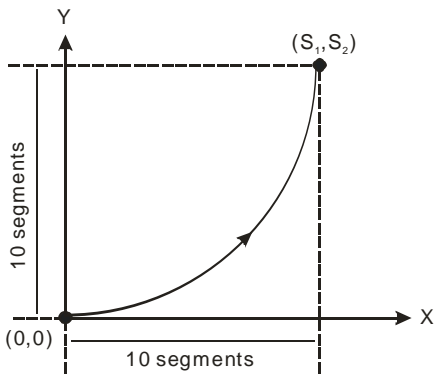
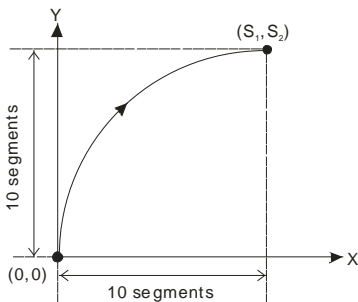
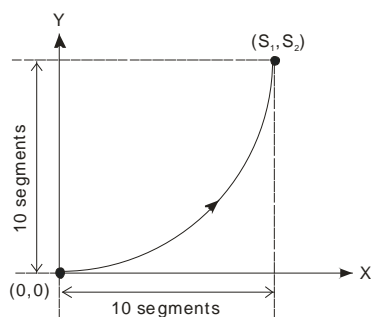

Figure 3
Figure 1
Figure 3
- The lower 16 bits of  $S$  (settings of direction and resolution): K0 refers to clockwise 10-segment (average resolution) output; K2 refers to clockwise 20-segment (higher resolution) output and a 90° arc can be drawn (see figure 1 and 2). K1 refers to counterclockwise 10-segment (average resolution) output; K3 refers to counterclockwise 20-segment (higher resolution) output and a 90° arc can be drawn (see figure 3 and 4).
- The lower 16 bits of **S** (settings of direction and resolution): K0 refers to clockwise 10-segment (average resolution) output; K2 refers to clockwise 20-segment (higher resolution) output and a 90° arc can be drawn (see figure 1 and 2). K1 refers to counterclockwise 10-segment (average resolution) output; K3 refers to counterclockwise 20-segment (higher resolution) output and a 90° arc can be drawn (see figure 3 and 4).